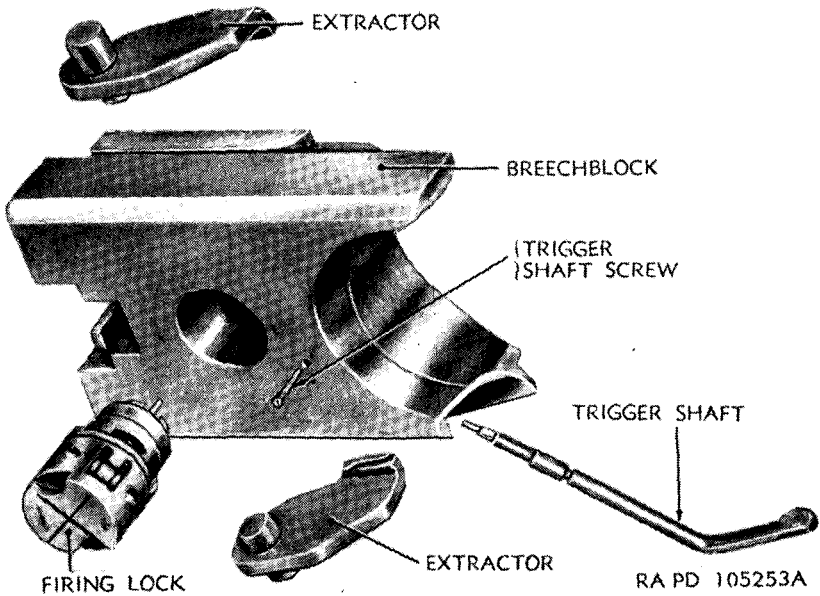

Figure 186. Breechblock—exploded view.
- (1) The firing lock may be removed either before or after the breechblock has been removed. With the chamber empty and the breech closed, remove the trigger shaft screw (fig. 186). Withdraw the trigger shaft, downward and to the right, from the breechblock. Rotate the firing lock 60° in either direction and pull it out of the breechblock.